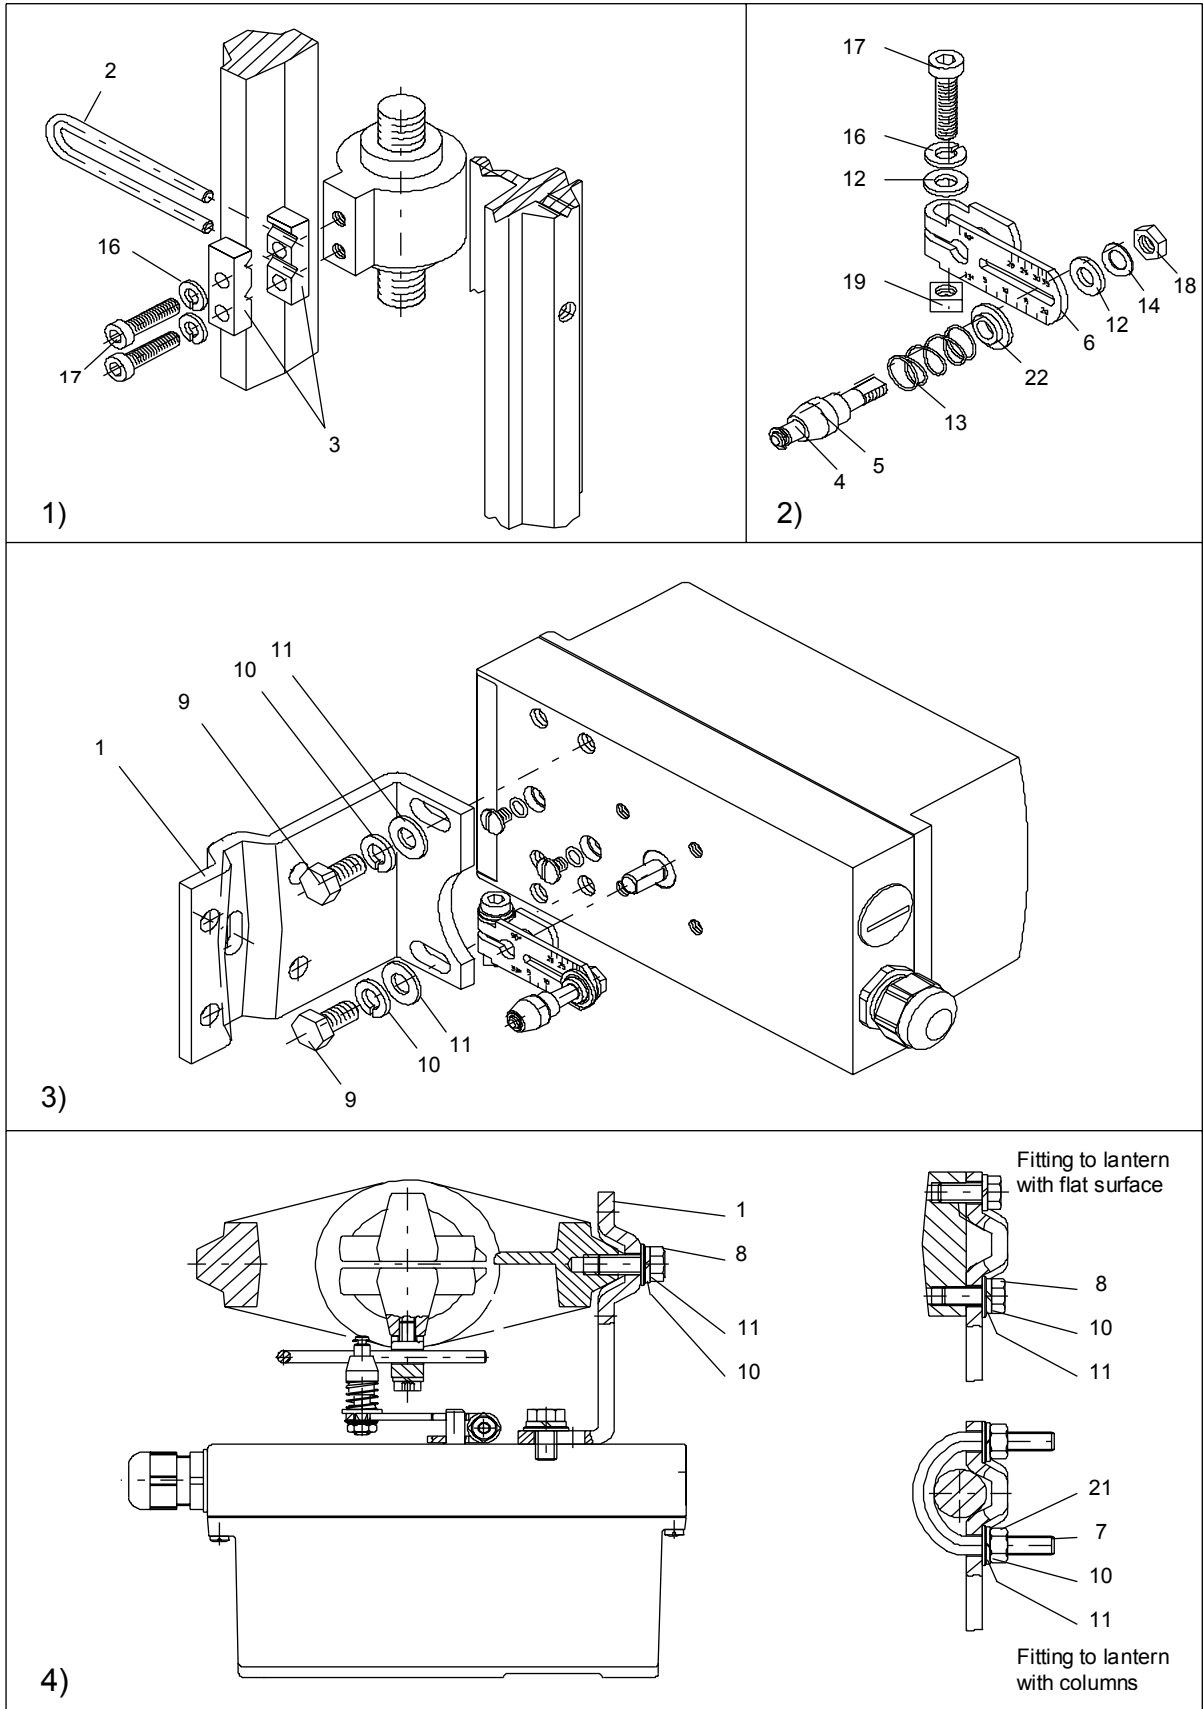

Figure 4 Assembly procedure for IEC 534 linear actuator
The "linear actuator IEC 534" mounting kit, stroke 3 mm to 35 mm, includes (see Figure 4 for identifying numbers):
3.3.1 Assembly procedure (see Figure 4)